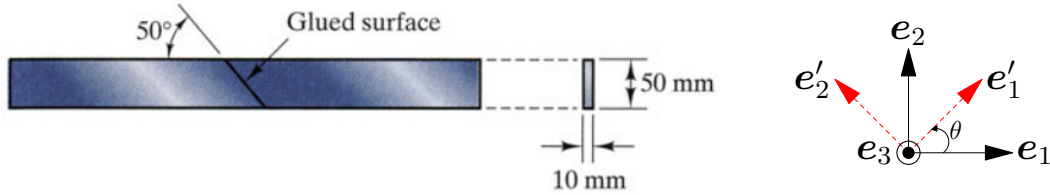

Figure 4
5. To test a glue, two plates are glued together as shown in Fig. 4. The bar formed by the joined plates is then subjected to tensile axial loads of 200 N. Using stress states and related Mohr's circle, determine the normal and shear stresses act on the plane where the plates are glued together (In other words, what stresses must the glue support?).